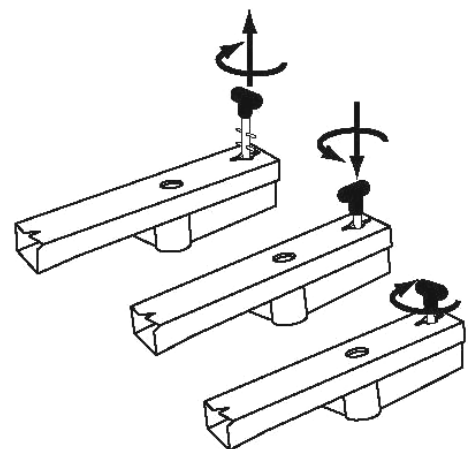

Figure 22a
1. Lift the Handle of the Tow Bar Locking Pin and rotate it (**Figure 22a**) to align the Spring Pins with the slot in the Tow Bar. Continue lifting until both Spring Pins are above the Tow Bar.
4. Lift the Handle and twist it until the Spring Pins align with the Slots in the Tow Bar. Press down to be sure to seat the Pin in the Mounting Plate hole (**Figure 22a**) at the desired location.
5. Rotate the Handle to position the Upper Spring Pin out of alignment with the Slot in the Tow Bar (**Figure 22a**).